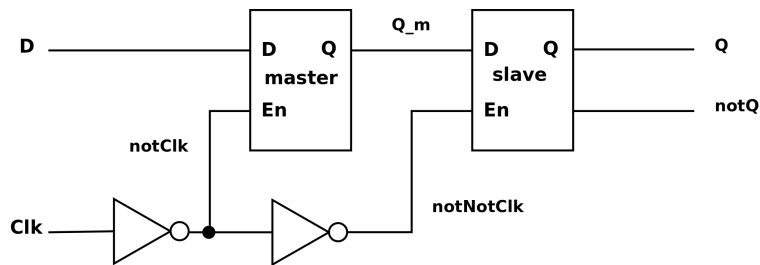

Figure 6: Master-Slave D flip-flop
To construct a D flip-flop, we can actually combine two D-latches with two inverters in what is often referred to as a *master-slave* configuration illustrated in Figure 6. Remember that a rising-edge sensitive D flip-flop essentially samples the input, D , at the rising-edge of Clk . Let us convince ourselves that the circuit in Figure 6 does exactly that. When Clk is low, the master latch is enabled while the slave latch is disabled. Thus, the output of the master latch, Q_m , equals the input, D , whereas the output of the slave latch, Q_s , is equal to whatever value was last store in that latch. For this example, let us assume $D = '1'$, and the value latched into the slave latch is 'X'. At some point, the Clk will transition from low to high. This event is referred to as a rising-edge. When this happens, the master latch will now become disabled, which means it will hold the value of D immediately before the transition (i.e. '1' will be latched into the master latch). Conversely, the slave latch will become enabled and therefore transparent (i.e. $Q_s = Q_m = '1'$). When the clock returns to a low state, the slave latch will simply hold the previous value of Q_m which is '1'. In the experiments below, you will have the opportunity to simulate this behavior to help you further understand how the master-slave D flip-flop works.
3. With the D-latch module you just created, construct a D flip-flop as shown in Figure 6.